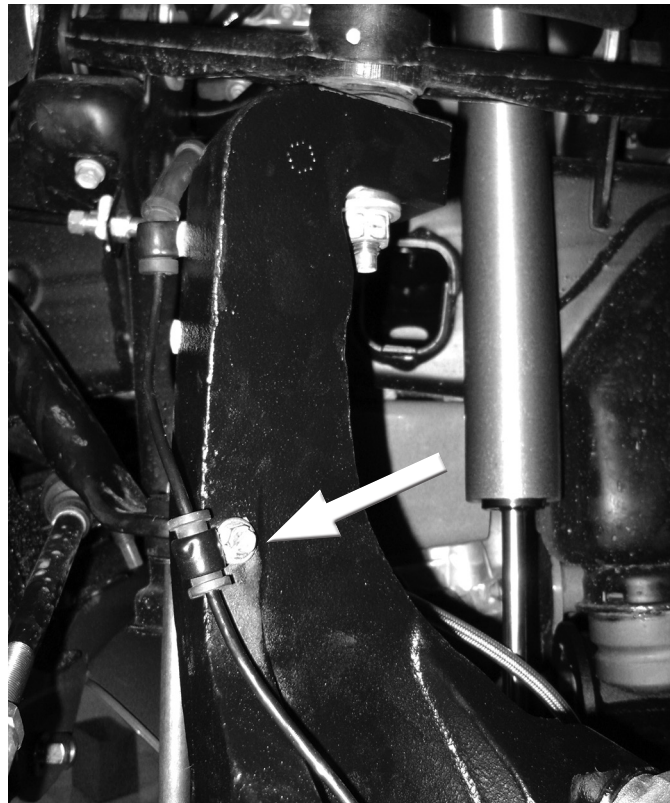

FIGURE 8
13. On the front side of the steering knuckle there is a small threaded hole. Using a third wire clamp, fasten the ABS wire to the front face of the knuckle with a 1/4" x 5/8" bolt and 1/4" lock washer (BP 590). Tighten securely (Fig 8). Pull the slack out of the line between the clamp and the caliper to provide as much loose line as possible above the clamp and then tighten to lock it in place. Adjust the slack in the two other lines, rotating the steering knuckle back and forth as a check, and tighten the upper clamp to 10 ft-lbs.